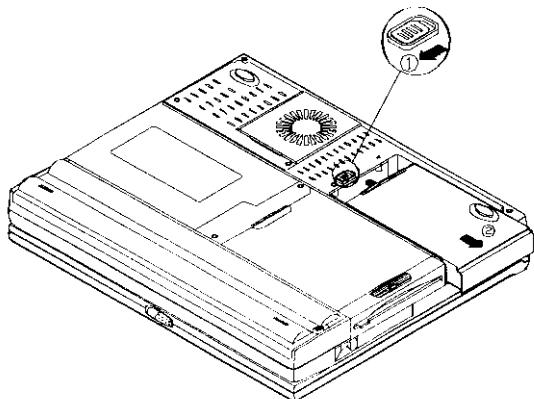

Figure 2-10
4. Press the latch in the indicated direction and take the hard disk drive out of the computer (Figure 2-10).